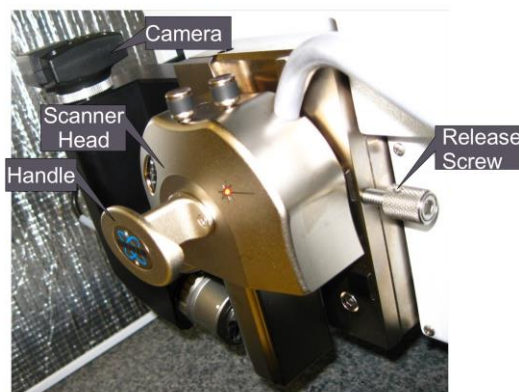

Figure 3. Dim Icon Scanning Head dovetail rail.
- 9) Unlock the scanner head by carefully gripping the head by the handle (Figure 3) and loosening the screw on the right side of the head, Figure 3 & 4. One or two turns should be enough. There is no need to turn the screw all the way out. Lift the head out of the dovetail rail. The scanner head should always be mounted on the dovetail rail unless you are loading the probe holder. If it is not, contact a GLA.
ii). It is also likely that the tip is out of focus. Use the focus tip panel to adjust the focus. Move the focus all the way up, and then move it down. You will see sequentially the tip, the mirror surface and the tip reflection. Then set the focal plane at the tip reflection iii) Do not touch the camera (Figure 3 or 4) it should not be moved.